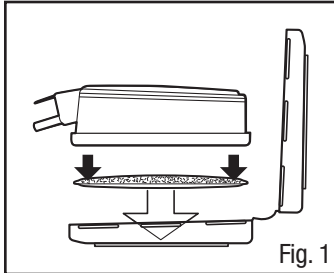

Fig. 1
1. Orient one filter in the larger half of the filter retainer so the shape of the filter aligns with the shape of the filter retainer. Ensure the printed side of the filter is facing down (Fig. 1).